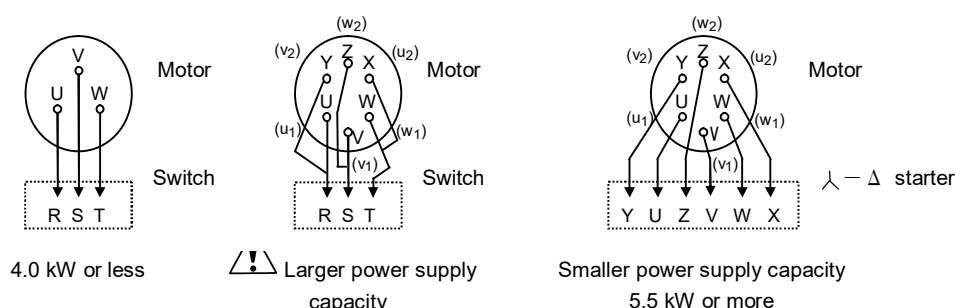

Fig. 2 Wiring connection
- (1) Perform wiring in accordance with the instructions in Fig. 2, a connection diagram on the inner lid of the motor terminal box, or an instruction manual for the motor.